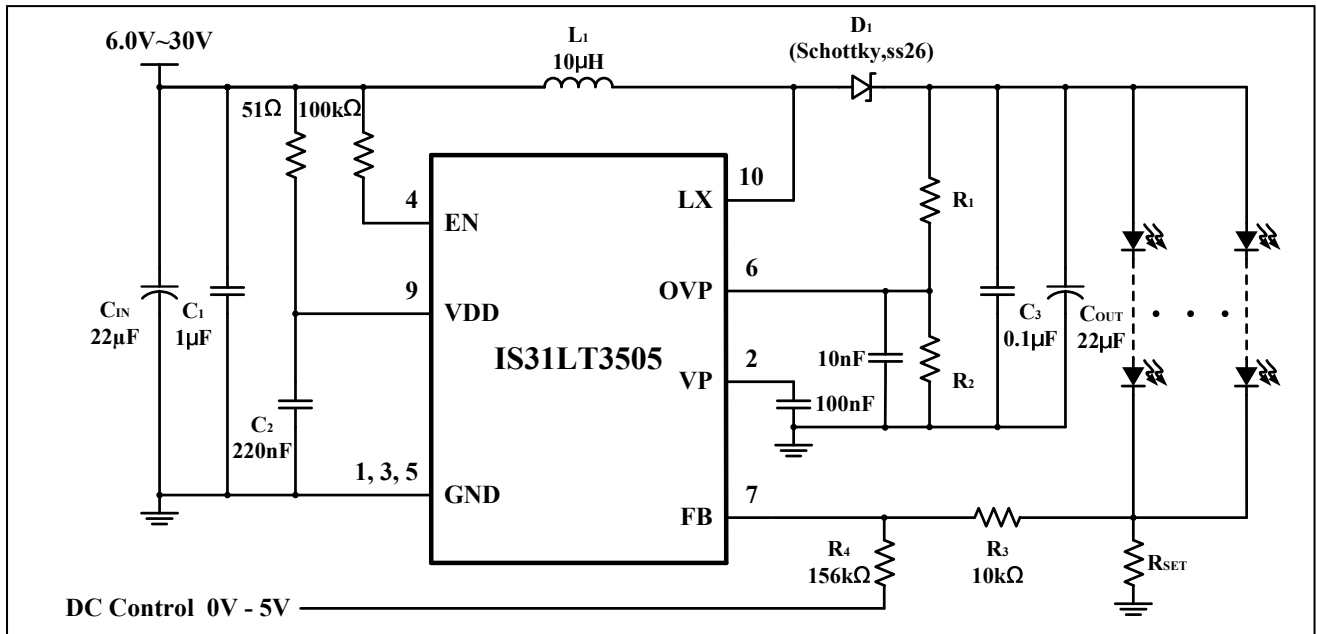

Figure 14 Application Circuit (Constant Current to Drive White LEDs With DC Dimming)
IS31LT3505 can modulate the brightness of LEDs by controlling the DC voltage or the PWM duty cycle (Figure 14, 15).
Figure 14 shows that the intensity of the LEDs can be adjusted by the DC voltage. As the DC voltage increases, the current pass through R3 increasingly and the voltage drop on R3 increase, i.e. the LED current decreases. The LED current can be calculated by the Formula (2). The internal feedback voltage V_{FB} is 0.3V (Typ.).
When the DC voltage is from 0V to 5V, the value of R3 should be 10kΩ. Refer to Figure 14.